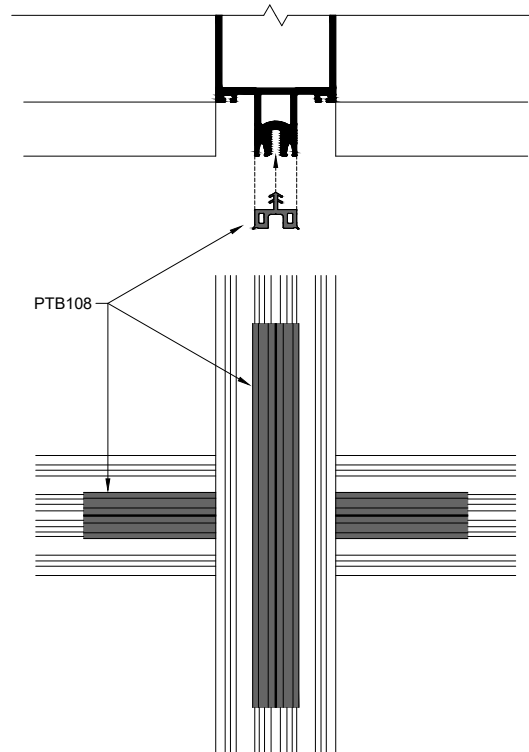

Fig.36.1
- B. Install PTB108 isolator gasket into vertical and horizontal tongues. Run the isolator through the vertical splice joints. See **Fig.36.1**